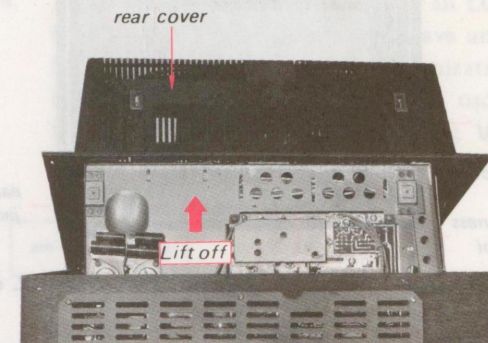

Fig. 2-3. Rear cover removal, Step 5
5. Lift the Rear Cover off as shown in Fig. 2-3.